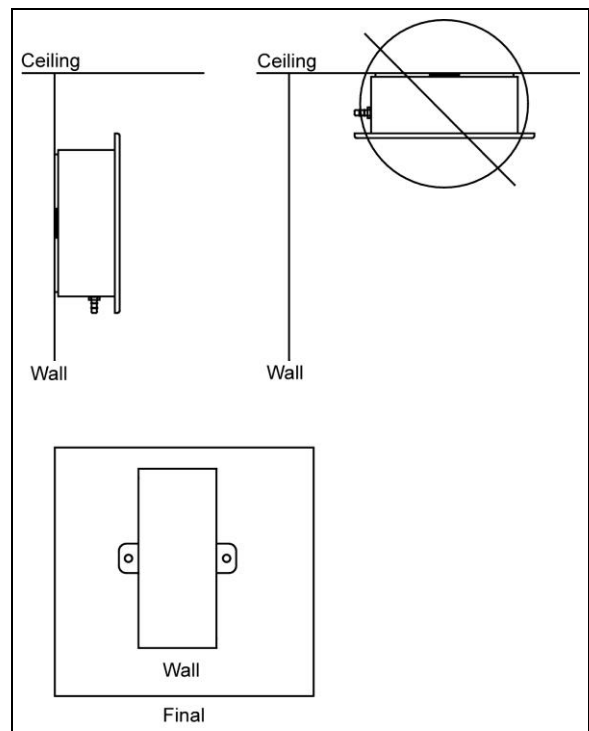

Figure 4: Pressure Transducer Mounting
- Mount the pressure transducer within 10 feet of the flow station. The transducer must be mounted on a wall in the correct position per Figure 4 (screws not provided).